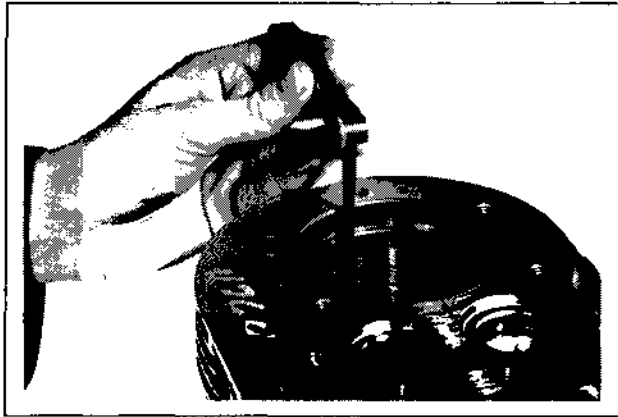

Figure 10-13. Measuring Piston Ring End Cap.
3. Before installing new rings on piston, place top two rings, each in turn, in its running area in cylinder bore and check end gap (see Figure 10-13). This gap should be .010"/.032" in a used cylinder bore and .010"/.023" in a new cylinder bore.